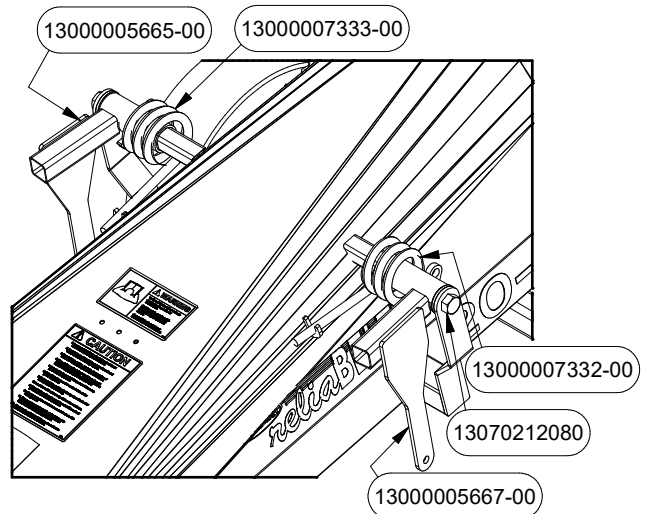

FIGURE 11
9. Install LH and RH pivots PN# 5665 and 5667, LH and RH hopper springs PN# 7333 and 7332 and bolts PN# 1307021080 onto jump as shown in Figure 11.